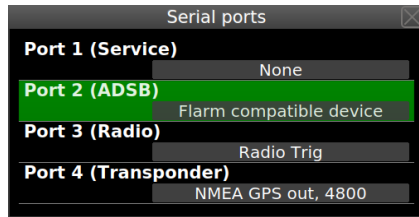

Figure 3.17: Serial port configuration window.
4. Select the *Serial ports* item. Figure 3.17 illustrates the window.
**!** Configure the transponder RS-232 part to *NMEA* and set data rate to *4800*. Also, set Aetos port to *NMEA GPS out, 4800*, see Figure 3.17.